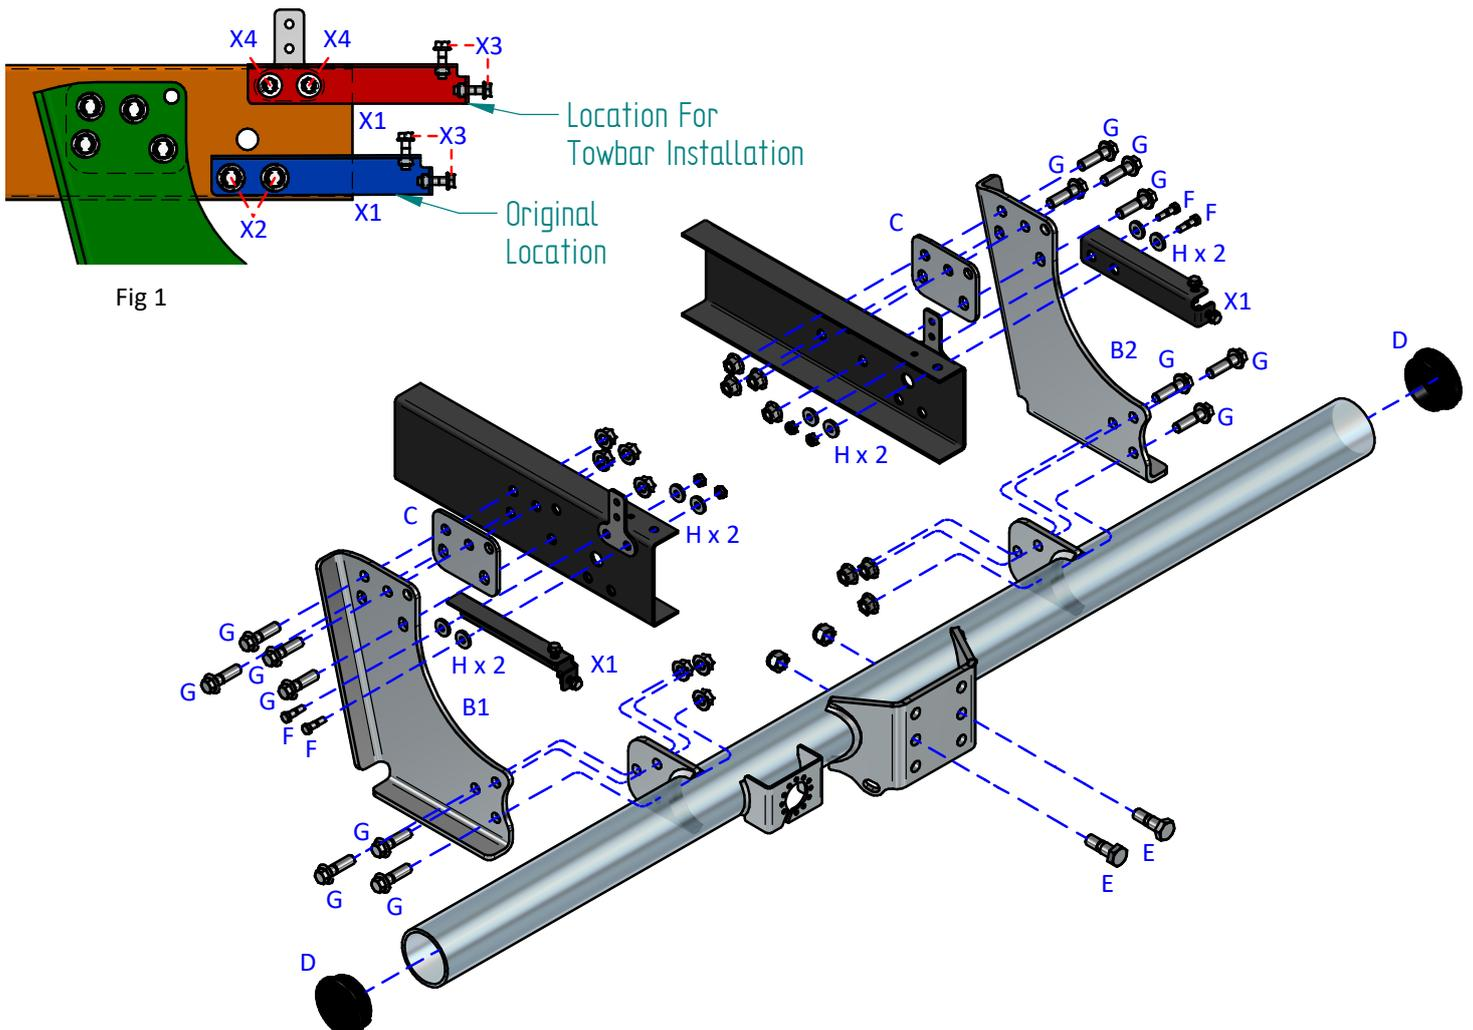

Fig 1
3. Remount **X1** with reference to Fig 1 using Items **F** with Items **H** and fully tighten all fixings. (Some models may require holes to be drilled)